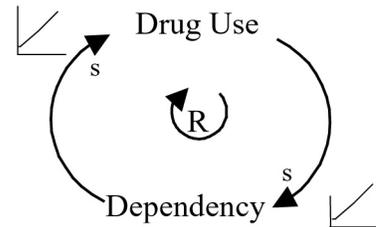

Figure 1
Since CLDs are about the causes of change, it is helpful to identify how key elements actually did change by drawing accompanying BOTGs (See Fig. 1: As drug use goes up, dependency goes up; as dependency goes up, drug use goes up.)
4. CLDs contain 4 elements (See Fig. 1):